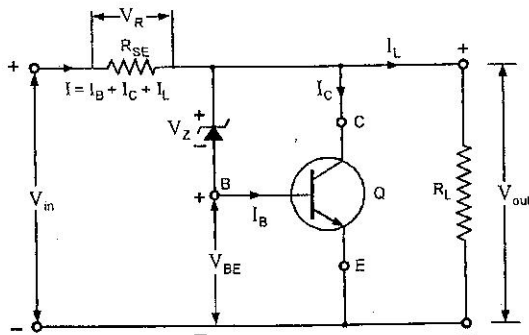

Fig. 32.12. Transistor Shunt Voltage Regulator
1. Transistor Shunt Voltage Regulator. A shunt voltage regulator using an NPN transistor and a zener diode is shown in Fig. 32.12. A series resistance R_{SE} is connected in series with the unregulated (or input), supply. Zener diode is connected across the base and collector terminals of the NPN transistor and the transistor is connected across the output, as shown in Fig. 32.12.
shown in Fig. 32.12, so that the regulator handles a larger load current. The output voltage is set by the zener voltage and that across the two transistor base emitters.